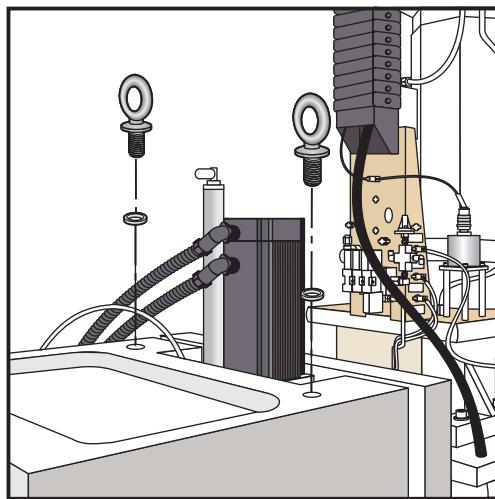

Fig. 12.26-8 VF-5 eyebolt locations on top of column.
2. Install (2) 5/8" x 1 x 1 1/16" eyebolts and (2) 3/4" hard washers to the column as shown in Figure 12.26-8. Tighten securely.